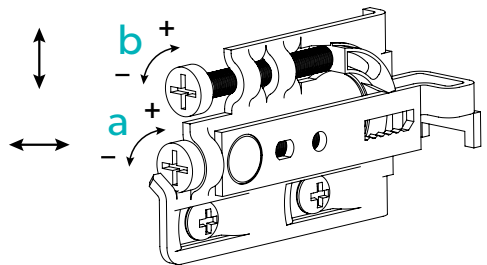

Fig. 6 - Wall Hanger Adjustment
7. Use furniture hangers to adjust alignment of furniture unit(s) (*Fig. 6, screw B, overleaf*), ensuring that they are level.
8. Once the unit is in position, adjust the screw on the furniture hanger (*Fig. 6, Screw A, overleaf*) to bring the furniture tightly against the wall.